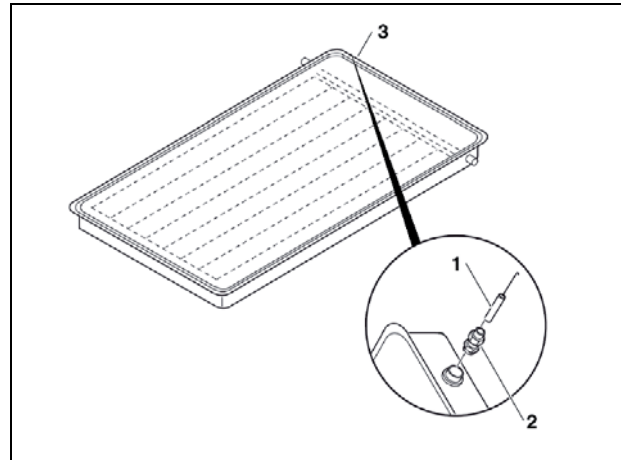

Fig. 9 Logasol SKN and SKS collectors
To install the collector sensor in the Logasol SKN and Logasol SKS (Fig. 9), follow the process as described below:
- Insert the collector sensor (Fig. 9, [1]) through the strain relief into the well until it bottoms out.
- Tighten the strain relief nut to secure the sensor and to achieve strain relief (Fig. 9, [2]). The sensor must sit snugly inside the sensor well.